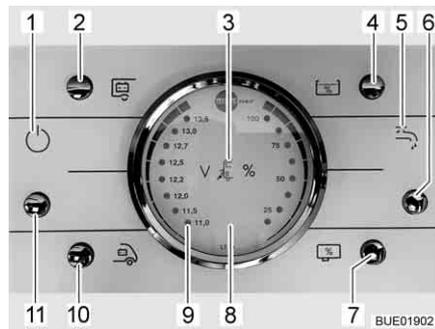

Fig. 164 Panel LT 96
The button (Fig. 164,11) switches the panel and the 12 V power supply to the living area on and off.
Switching on: ■ Press the button (Fig. 164,11): The 12 V living area power supply is switched on. The indicator lamp (Fig. 164,1) lights up.
Switching off: ■ Press the button (Fig. 164,11): The 12 V living area power supply is switched off. The indicator lamp (Fig. 164,1) goes out.
With the V/tank gauge (Fig. 164,8), note the left scale. The gauge automatically lights up as soon as a button is pressed.
- Press the button (Fig. 164,10): The battery voltage of the starter battery is displayed.
- Press the button (Fig. 164,2): The battery voltage of the living area battery is displayed.
The V/tank gauge is for the indication of the quantity of water or waste water. With the V/tank gauge (Fig. 164,8), note the right scale. The gauge automatically lights up as soon as a button is pressed.
- Press the button (Fig. 164,4): The volume of water is displayed.
- Press the button (Fig. 164,7): The volume of waste water is displayed.
- Press the button (Fig. 164,6): The water supply is ON. The water pump indicator lamp (Fig. 164,5) lights up.
- Press the button (Fig. 164,6): The water supply is OFF. The water pump indicator lamp (Fig. 164,5) goes out.
The red "ALARM" warning light (Fig. 164,9) flashes as soon as the voltage of the living area battery falls below 11 V (measured under operation) and there is a risk of a total discharge.
The 12 V indicator lamp (Fig. 164,1) lights up when the 12 V main button (Fig. 164,11) is switched on.
The 230 V indicator lamp (Fig. 164,3) illuminates whenever line voltage is available at the transformer/rectifier input.